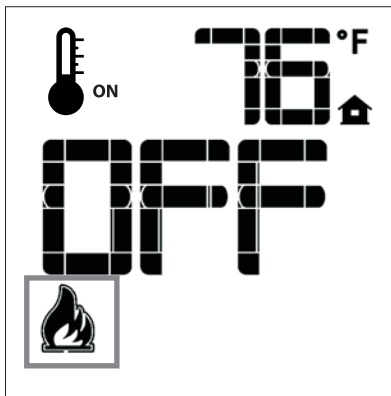

Figure 44
The Proflame GTM has six (6) flame levels. With the system on, and the flame level at the maximum in the appliance, pressing the Down Arrow Key once will reduce the flame height by one step until the flame is turned off. The Up Arrow Key will increase the flame height each time it is pressed. If the Up Arrow Key is pressed while the system is on but the flame is off, the flame will come on in the high position (Figure 44 - 47). A single "beep" will confirm reception of the command.